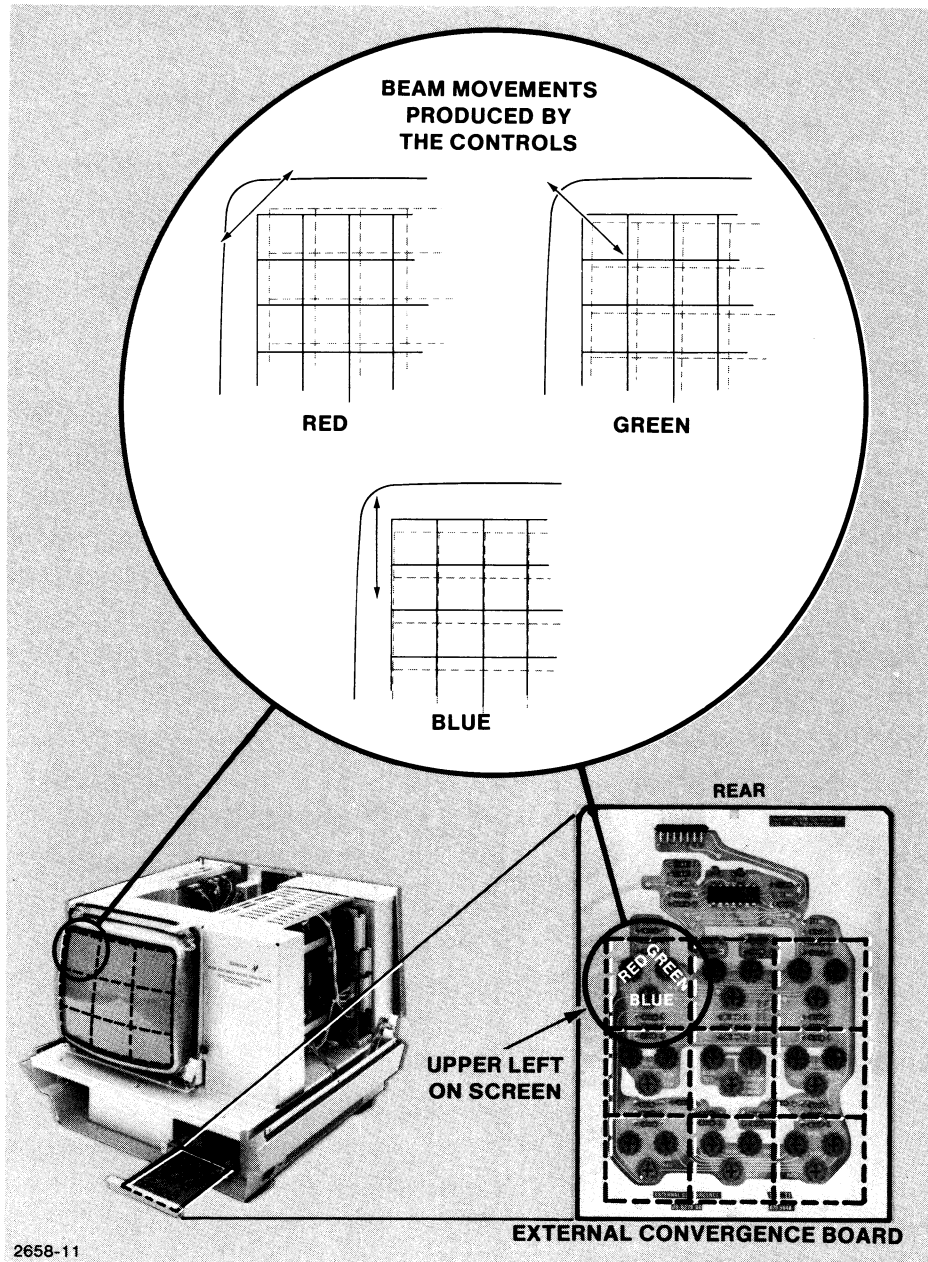

Figure G-1. External Convergence Adjustments.
2. Remove the two screws securing the external convergence board tray and slide out the tray (Figure G-1).
Refer to Figure G-1 to get an idea of the direction of beam movement produced by the convergence adjustments. For a particular area, the red and green are converged first, then the blue is converged with them.